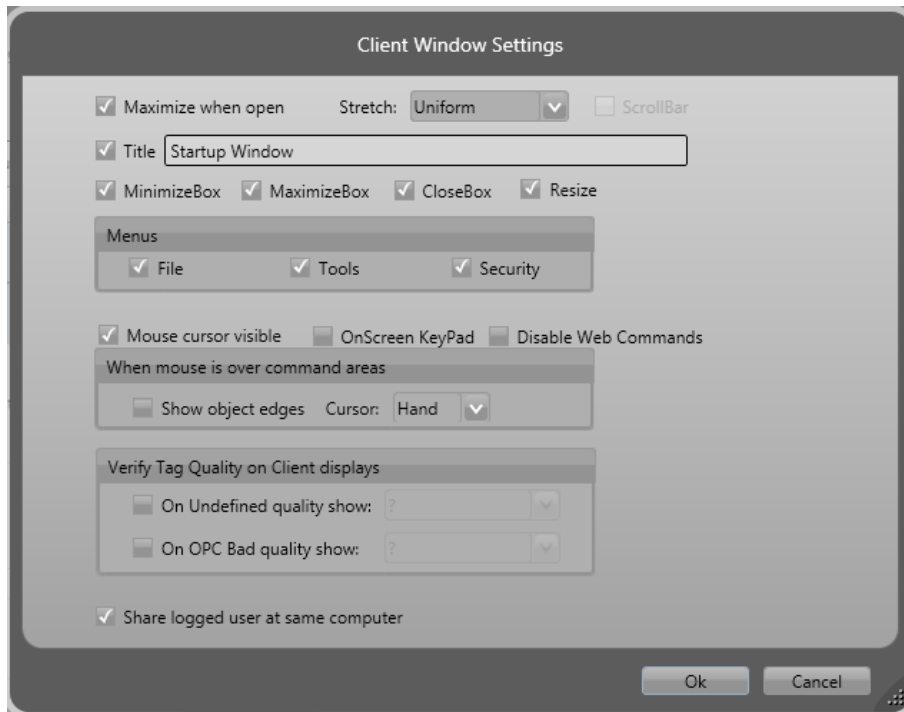

Figure 6-45. Rich Clients Configurations
6. Click Clients button to make the configuration of the Rich Clients on Runtime (a single configuration for all rich clients). See Figure 6-45